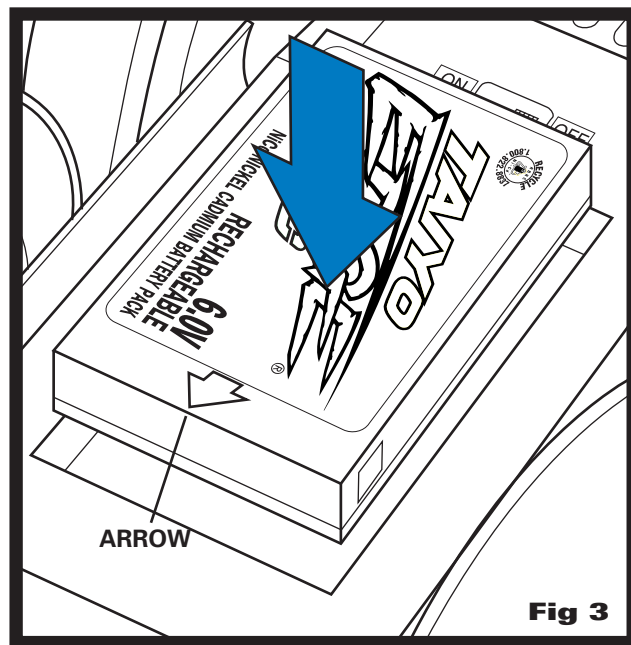

Fig 3
2. Drop fully charged BATTERY PACK straight into BATTERY OPENING with ARROW on BATTERY PACK pointing AWAY from LATCH. (Fig. 3)